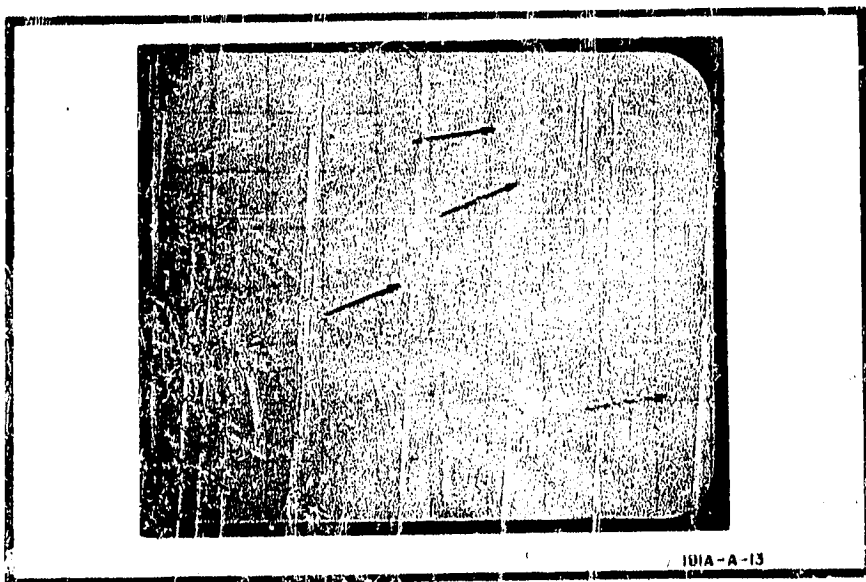

Figure 5-1. Bright Spots in CRT Display.
- j. Depress WRITE pushbutton. Depress ERASE pushbutton for 2 seconds and release, screen should be dark, except for possibly a few small spots (see Figure 5-1).